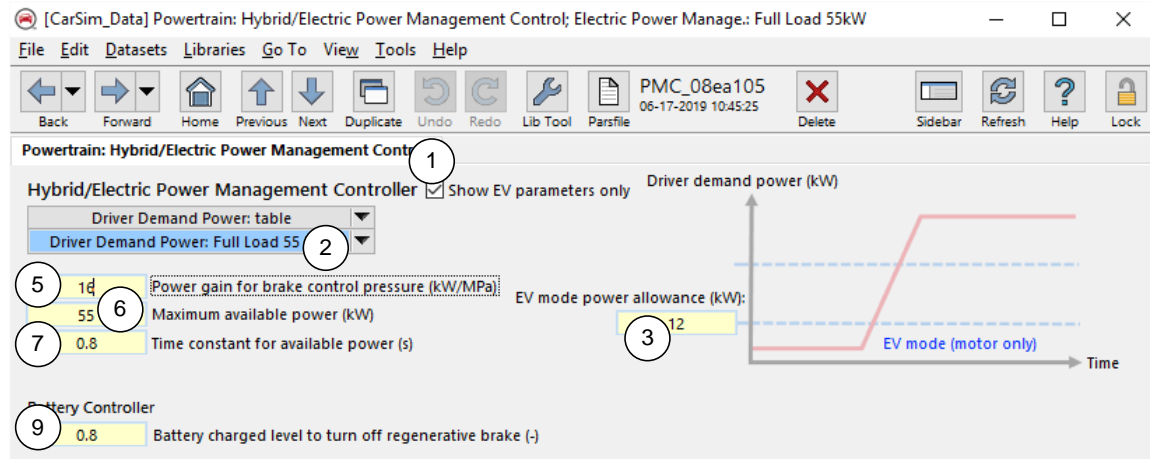
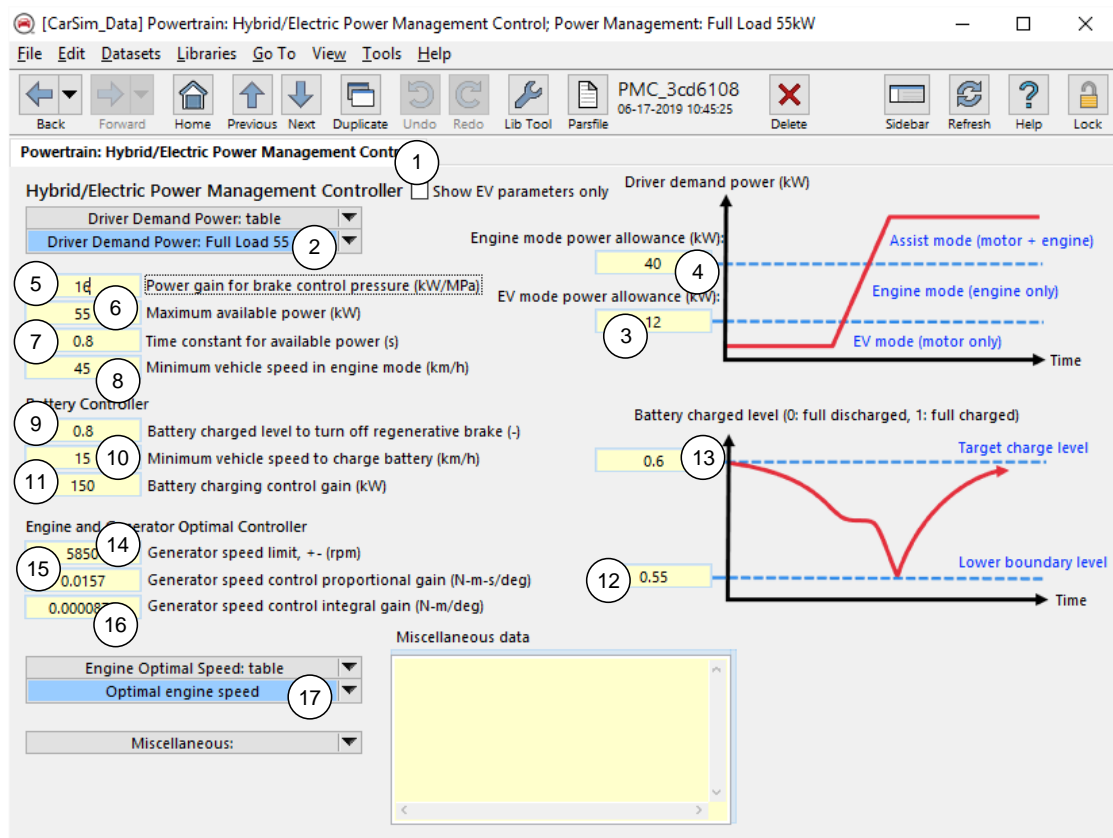

Figure 12. Powertrain: Hybrid/Electric Power Management Control screen for BEV
Figure 13. Powertrain: Hybrid/Electric Power Management Control screen for HEV.
The **Powertrain: Hybrid/Electric Power Management Control** screen showing only the parameters for the electric powertrain system (5 parameters and 1 link for a configurable function) is shown in Figure 12. Un-check the box (1), to view additional controls for the hybrid powertrain system as shown in Figure 13.